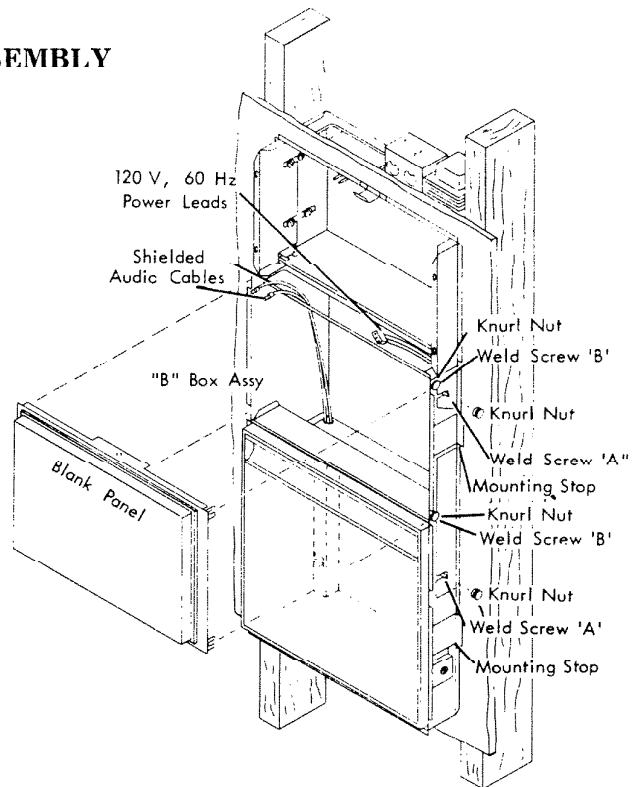

Fig. 1.24
- (2.1) Loosen the two knurl nuts on weld screws each side of "B" Box Assy. and slide blank center panel forward away from "B" Box Assy. (Fig. 1.24)
(3.1) Remove two hex-head screws each side, holding receiver chassis to Mtg. Brackets in "A" Housing. (Fig. 1.24)